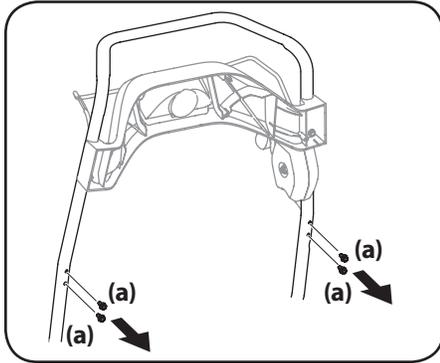

Figure 2-10
1. Remove the hex washer screws (a) from the back of the handle (two on each side). See Figure 2-10.